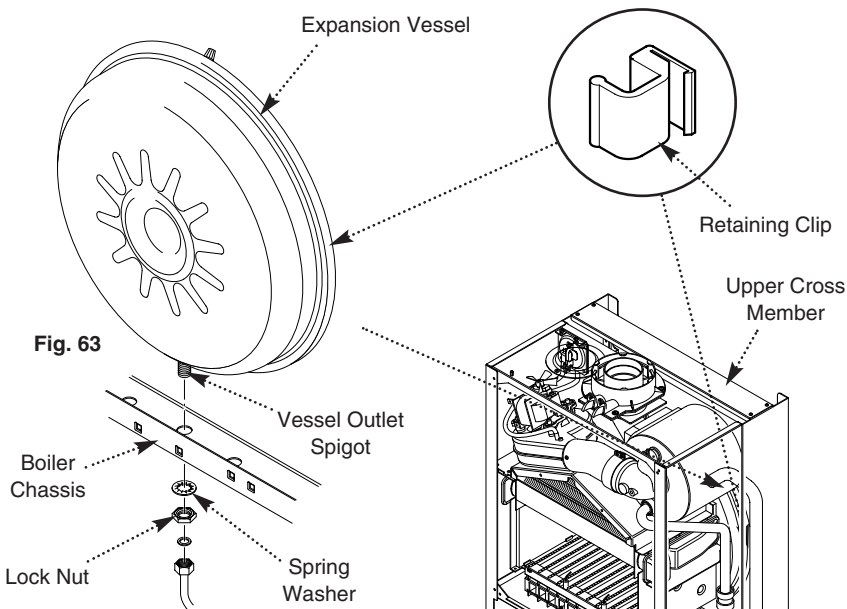

Fig. 63
12.15 Expansion Vessel (Fig. 63)